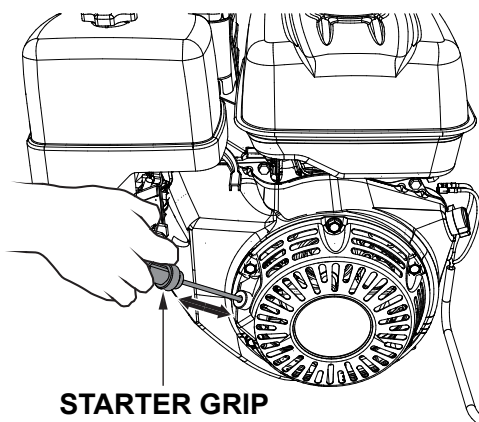

Figure 12. Starter Grip
7. Slowly pull the starter grip (Figure 12) until resistance is felt, then pull briskly and smoothly to start the engine. Gently return the starter grip to its original position.